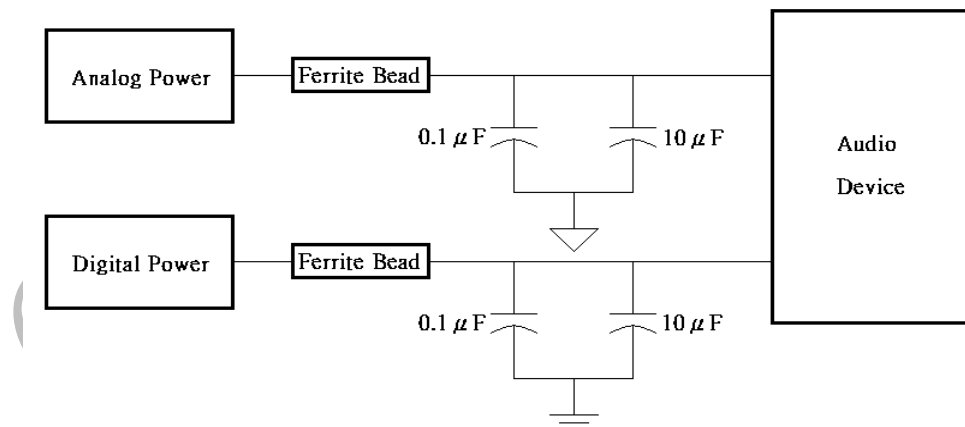

Fig.3 Capacitors Array
8. Consider achieving proper ESD/EMI performance; use a 0.1 μ F capacitor on each cable PWR bus line to chassis GND close to the USB connector pin. If voltage regulators are used, place a 0.1 μ F capacitor on both input and output as Figure 3. This is to increase the immunity to ESD and reduce EMI.